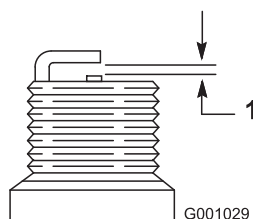

Figure 49
7. Set the gap between the electrodes on a new spark plug at 0.030 inch (0.76 mm) (Figure 49).